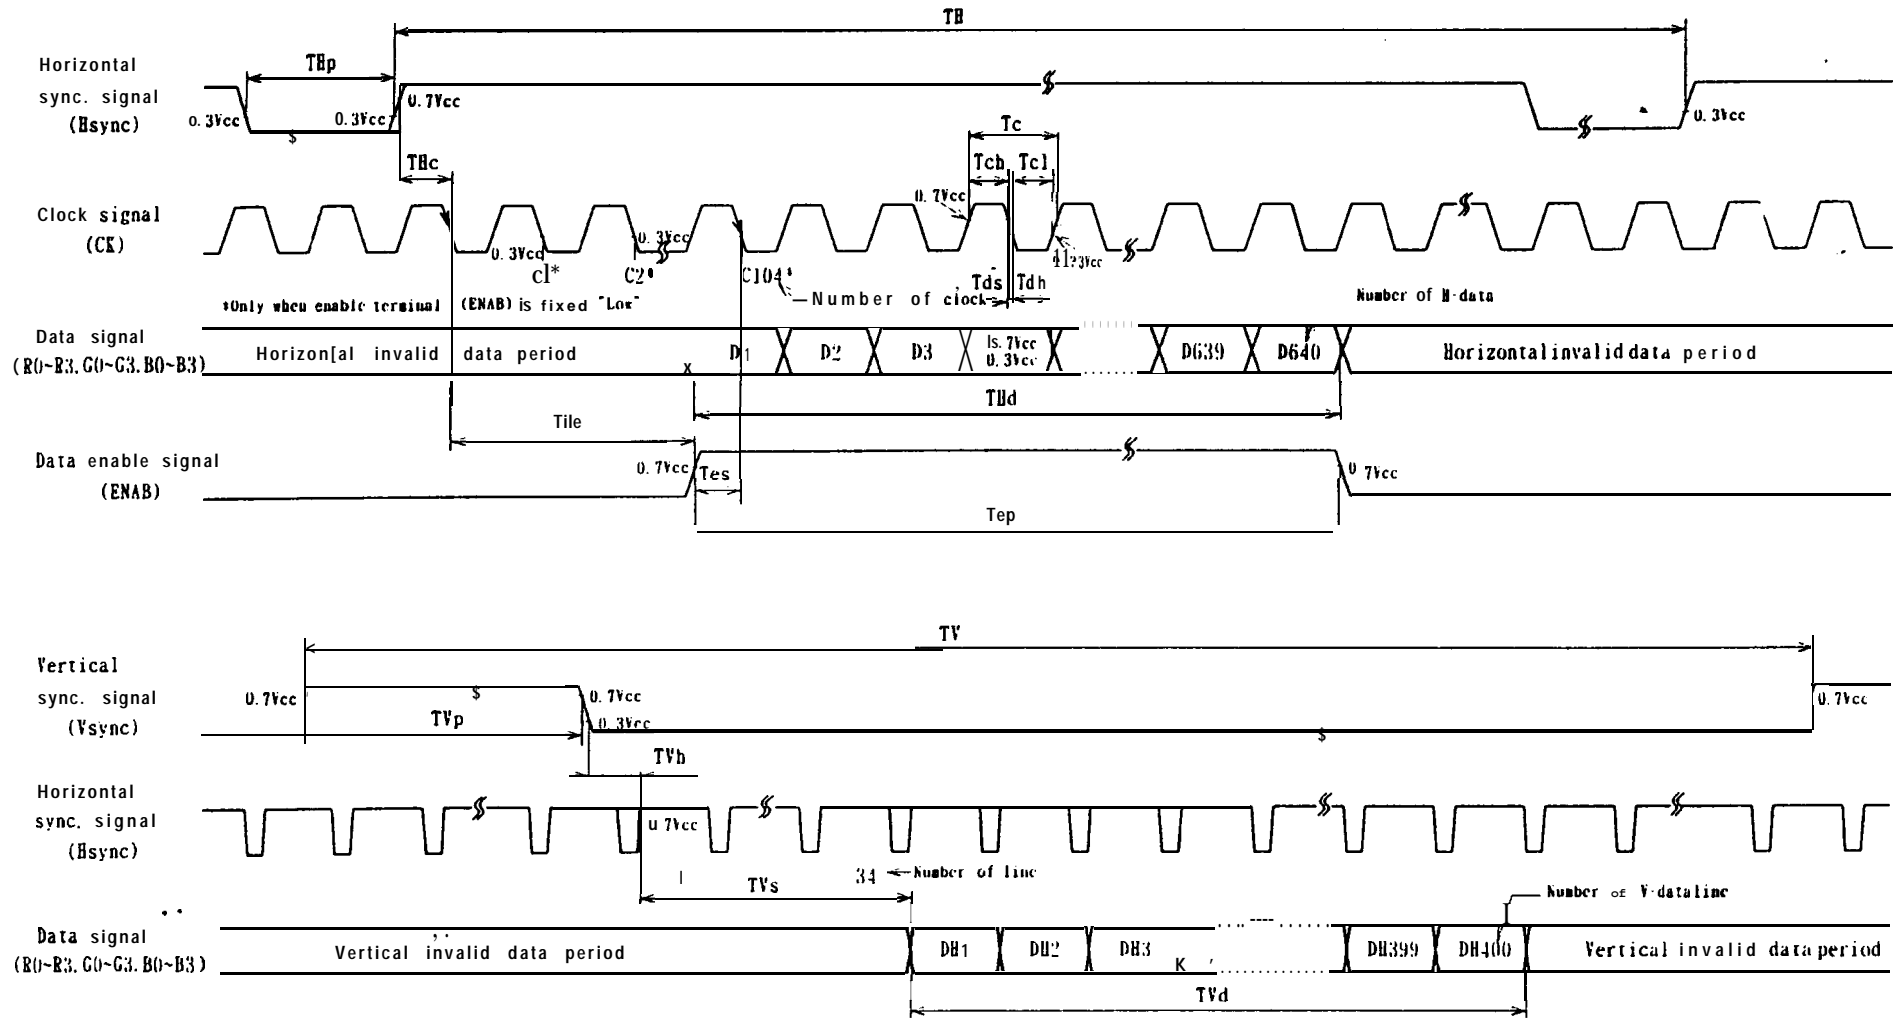

Fig. 2-② Input signal waveforms (400-line mode)
The timing diagrams of the input signals are shown in Fig. 2-①~③.
Note) When ENAB is fixed "Low". the display starts from the data of C104(clock) as shown in Fig.2-①~③. Be careful that the module do not work when ENAB is fixed "High".